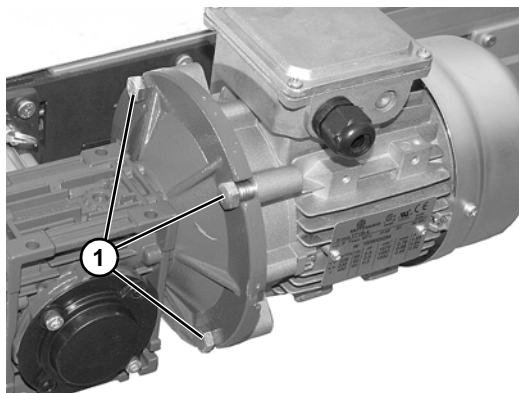

Figure 20
11. Install screws (Figure 20, item 1) and tighten to 65 in-lbs (7.3 N-m).